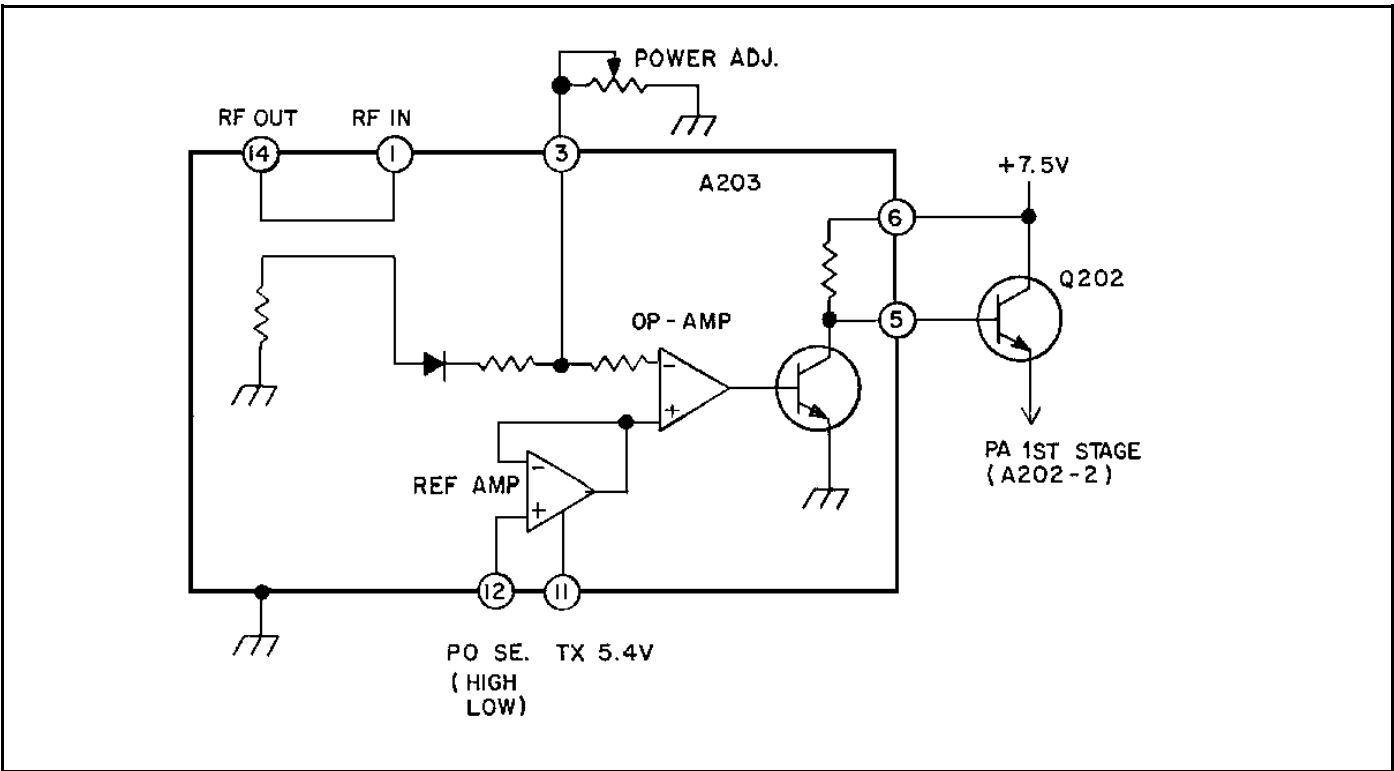

Figure 5 - Power Control Module
The RF power output of the radio is regulated by sensing variations in the RF power output of the transmit PA module to control the supply voltage to the first stage of the PA module (refer to Figure 5). Supply voltage cannot be applied to the first stage of the PA module until the transmit circuit is keyed, applying 5.4 Volts to Pin 11 of Power Control (PC) hybrid IC A203. When the transmit circuit is keyed, the output of a reference amplifier, determined by the High-Low power control, is applied to the positive (+) input of a comparator circuit.